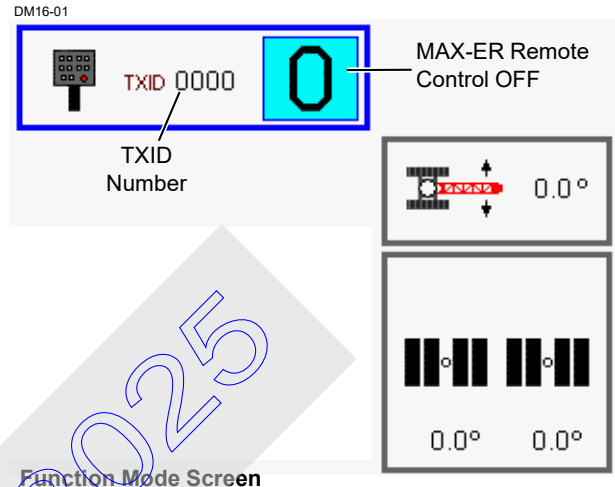

FIGURE 3-5
1. In function mode screen, enter MAX-ER remote control data box (Figure 3-5).